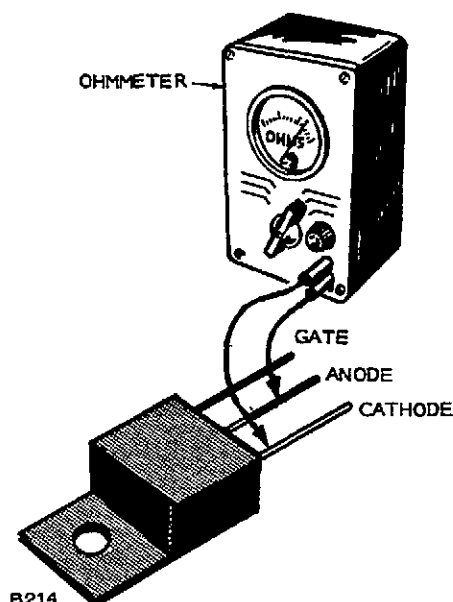

FIGURE 10. SCR RESISTANCE TEST
1. Using high scale on ohmmeter, connect ohmmeter leads to anode and cathode of the SCR as shown in Figure 10. The resistance reading should be one megohm or greater. Reverse ohmmeter leads to anode and cathode; resistance should again be one megohm or greater.